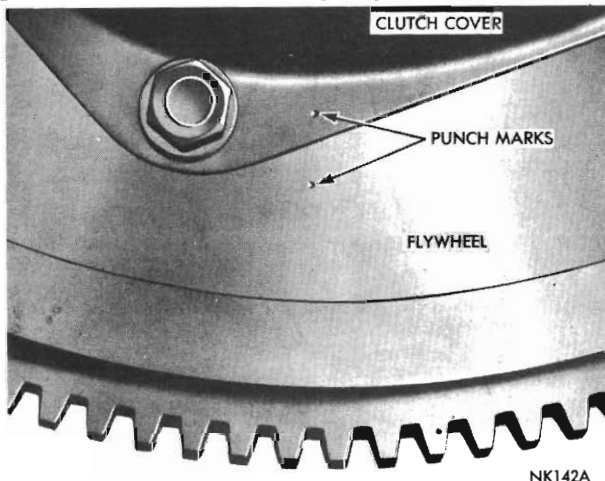

Fig. 2 - Punch marks on clutch cover and flywheel
- (1) Remove the transmission.
- (2) Remove the clutch housing pan.
- (3) Disconnect the clutch linkage and retracting spring at the clutch release fork.
- (4) Pull out clutch release bearing and sleeve.
- (5) Mark the clutch cover and flywheel (*see Fig. 2*) to ensure that cover and flywheel will be correctly matched in assembly. Now, remove the bolts that hold the clutch cover to the flywheel loosening each bolt a few turns (in succession) until cover is free.